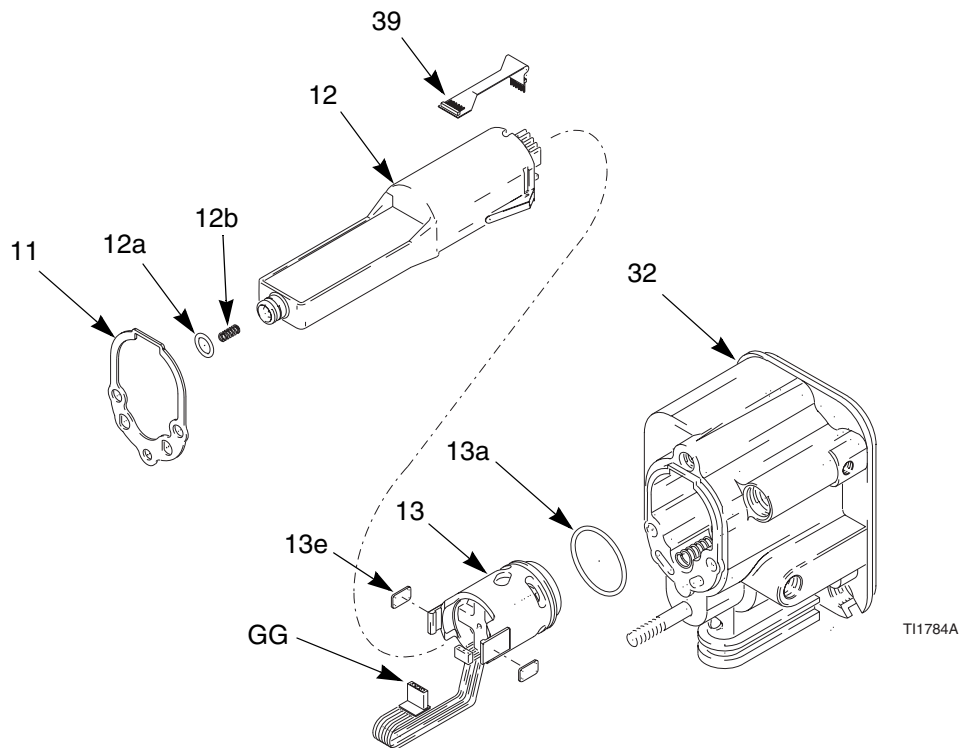

Fig. 33. Power Supply
3. Grasp the power supply (12) with your hand. With a gentle side to side motion, free the power supply/alternator assembly from the gun body (32), then carefully pull it straight out. Disconnect the flexible circuit (39) from the socket at the top of the body (32). See FIG. 33., page 54.
4. Disconnect the 3-wire connector (GG) from the power supply. Slide the alternator up and off the power supply. Inspect the power supply and alternator for damage. Disconnect the 6-pin flexible circuit (39) from the power supply.
6. Connect the 6-pin flexible circuit (39) to the power supply.
7. Connect the 3-wire connector (GG). Slide the alternator (13) down onto the power supply (12).
10. Insert the power supply/alternator assembly in the gun body (32). Make sure the ground strips make contact with the body. Connect the flexible circuit (39) to the socket at the top of the body. Push the 6-pin connector into the socket to ensure it is properly connected.
11. Install the barrel (9), page 52.